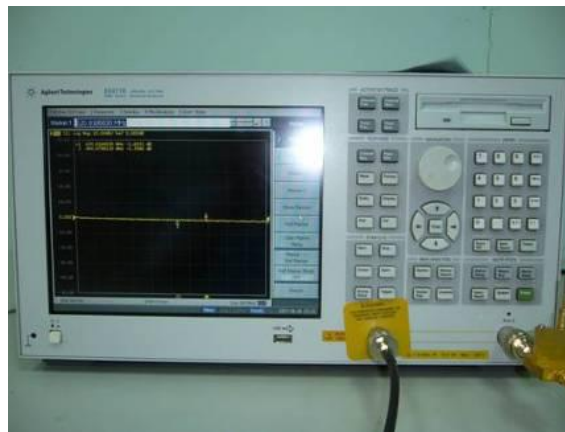

Figure 1. Network Analyzer
- a. Equipment: Network Analyzer (Agilent E5071A)(Fig.1)